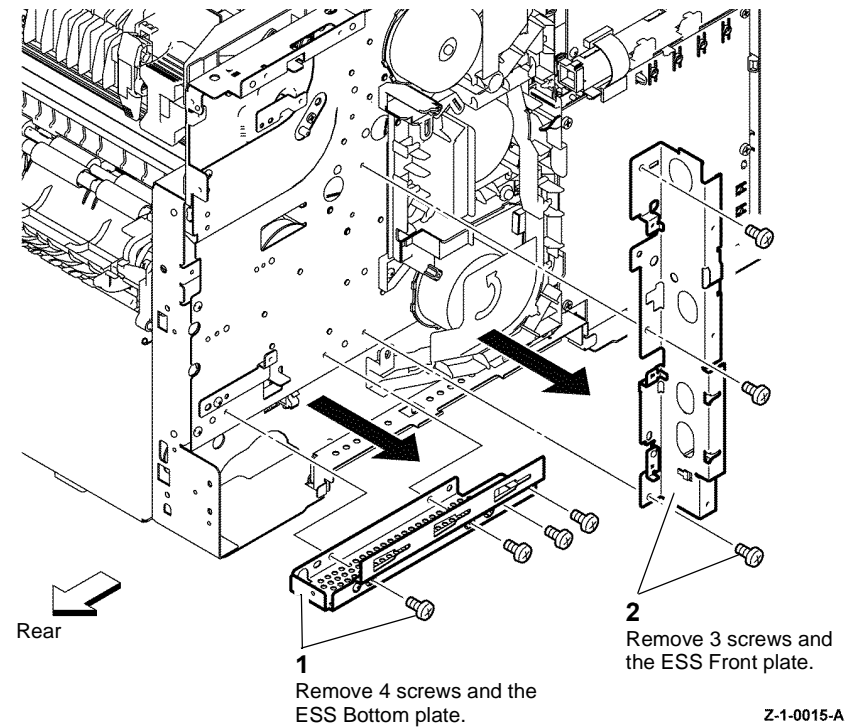
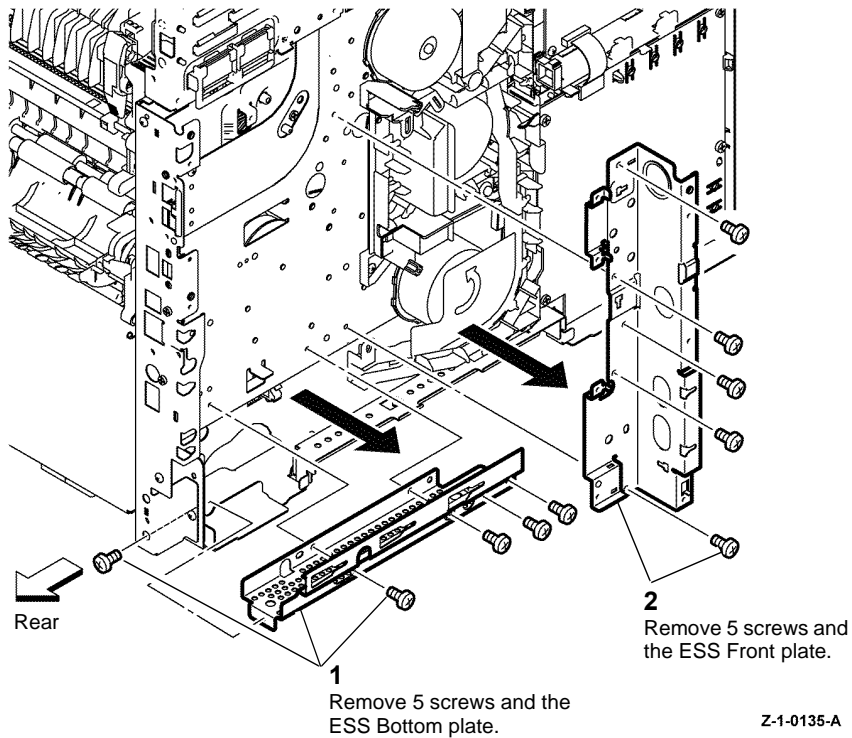

Figure 2 ESS bottom and front plates C400
Figure 3 ESS bottom and front plates C405
4. Remove the ESS bottom and front plates, (Figure 2 C400), (Figure 3 C405).